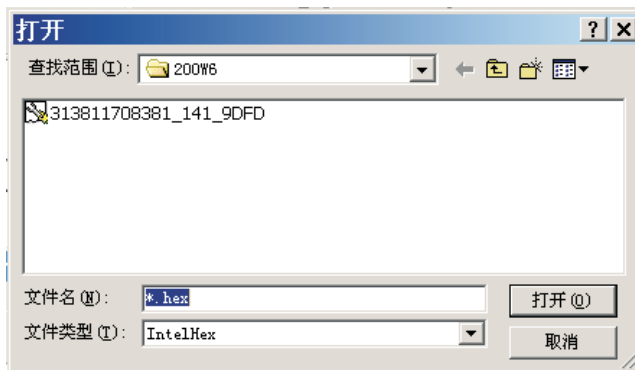

Fig. 8
2. Press the Load hex then select the hex file as shown in Fig. 8.